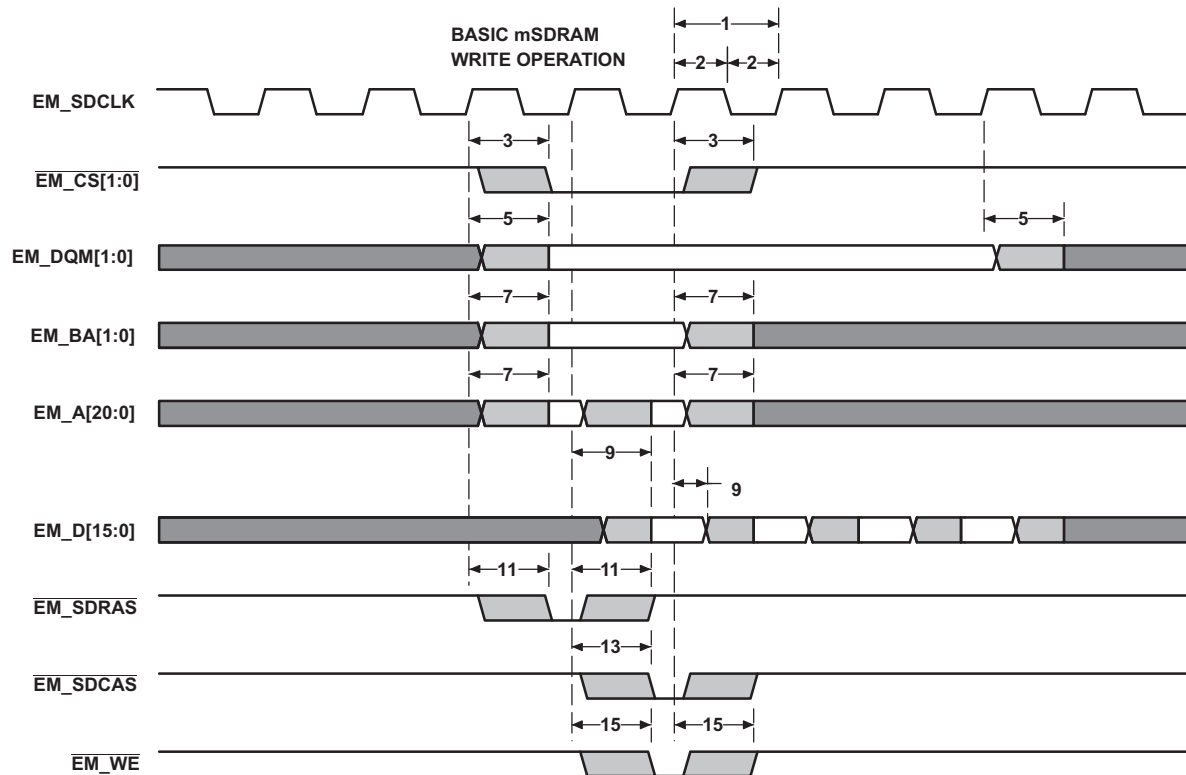
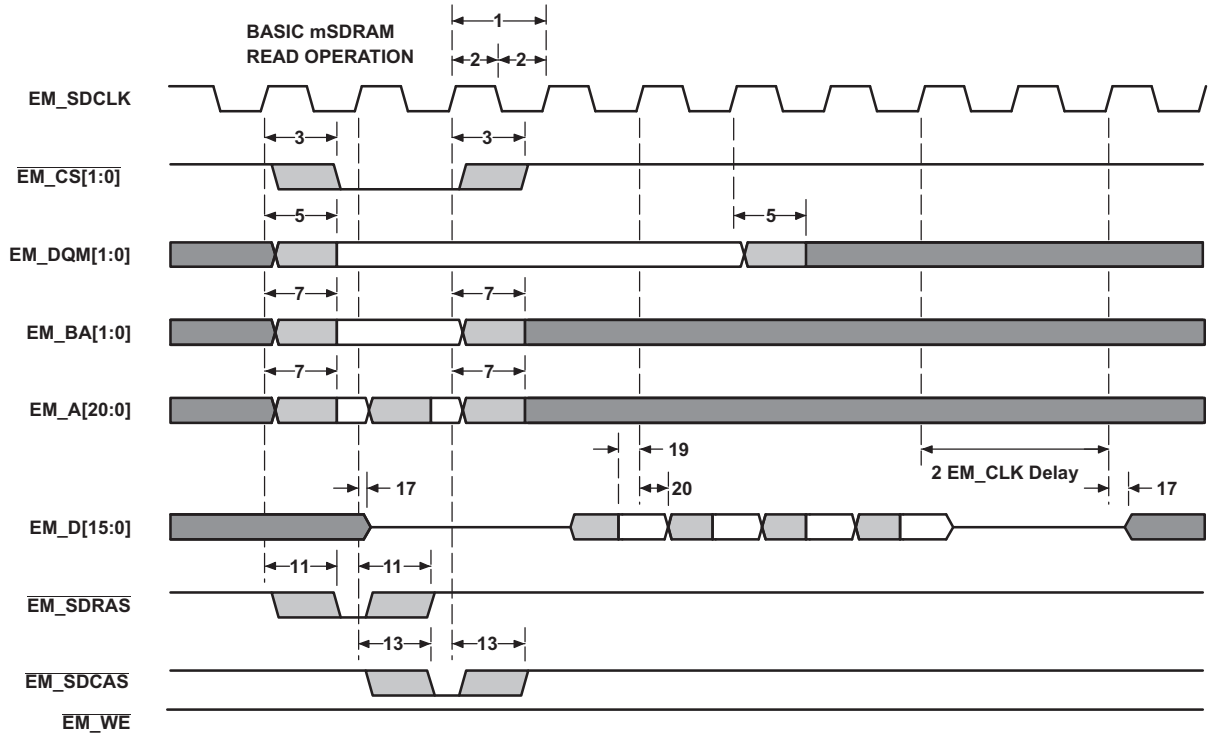

Figure 5-16. EMIF Basic SDRAM/mSDRAM Write Operation
Figure 5-17. EMIF Basic SDRAM/mSDRAM Read Operation
**Table 5-16. Timing Requirements for EMIF SDRAM/mSDRAM Interface(1) (see Figure 5-16 and Figure 5-17)**
(1) Timing parameters are obtained with 10pF loading on the EMIF pins.
**Table 5-17. Switching Characteristics Over Recommended Operating Conditions for EMIF SDRAM/mSDRAM Interface(1)(2) (see Figure 5-16 and Figure 5-17)**